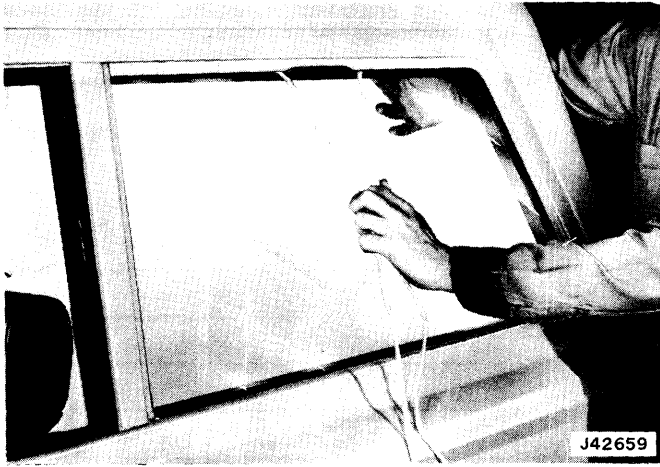

Fig. 15-7 Rear Quarter Window Installation
(6) Place glass and weatherstrip into position in window opening with ends of cord hanging outside vehicle (fig. 15-7).
(7) Pull on ends of cord to pull lip of weatherstrip over body panel. With cord removed, weatherstrip should be positioned correctly.
(8) Install interior garnish moulding.
(9) Apply bead of 3M Auto Bedding and Glazing Compound or equivalent from outside of vehicle between weatherstrip and body panels.
(10) Clean excess sealer from glass and exterior body surface.
(11) Test window for water leaks.